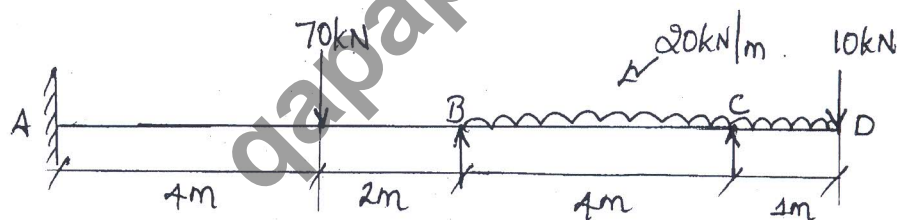

Fig Q8
- 8 Analyze the beam shown in Fig Q8 by moment distribution method. Draw DMD and elastic curve. (20 Marks)